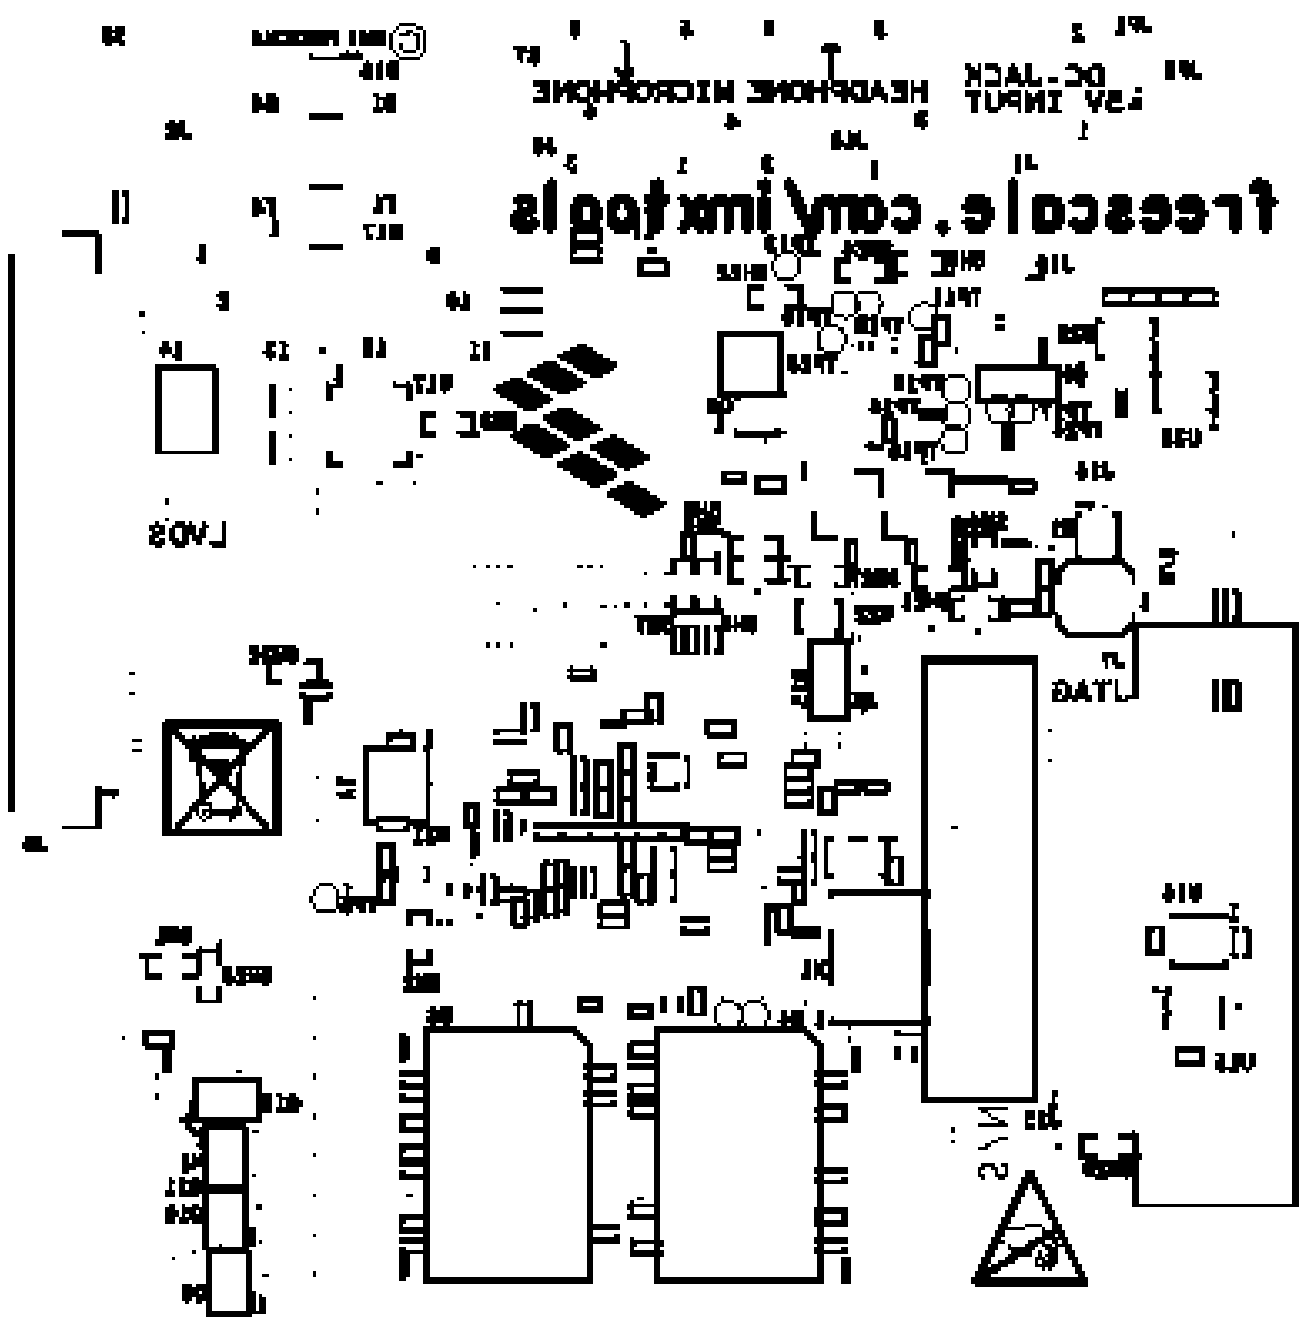

Figure 70. Silkscreen Bottom
- Figure 70. Silkscreen Bottom